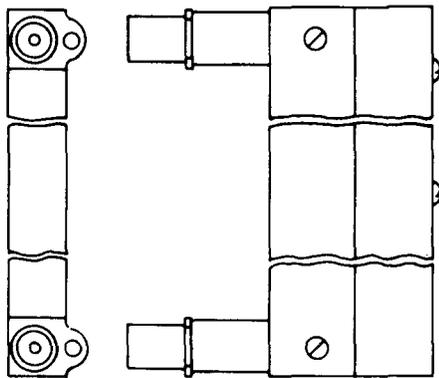

Fig. 7—557B Jack
**2.07 557B:** This twin coaxial-type jack (Fig. 7) has coaxially arranged inner and outer contacts. The outer contacts are connected together and the jack construction permits the strapping of inner contacts. A removable coverplate is furnished for use in covering an unused cable entrance hole. One end of the 557B jack is designed to be used with the 358A and similar-type plugs. The other end is designed for solderless shield connections to a 728A cable by means of a sleeve which is furnished as a loose part of the jack. The jack will withstand a voltage breakdown of 3000 volts ac. This jack is designed to be mounted in jack mountings such as the 185 or 230 type. The mounting lugs on the two individual jacks may be positioned for mounting side-by-side, in the same direction, or extended back-to-back. The jack is used with the L4 Coaxial System and is recommended to be used in place of the 557A jack.